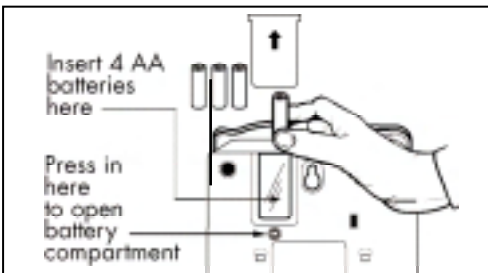

Figure 3 - Accessing the Batteries
1. Slide open the battery compartment cover on the bottom of the telephone (Figure 3).